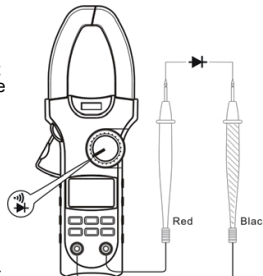

Figure 6
D. Testing Diodes (See Figure 6)